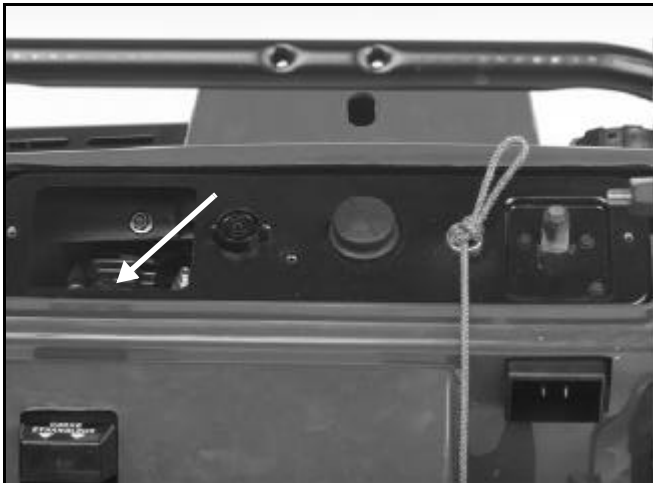

Figure 134
6. Disconnect the spark plug wire from the spark plug to prevent accidental starting (Figure 134).